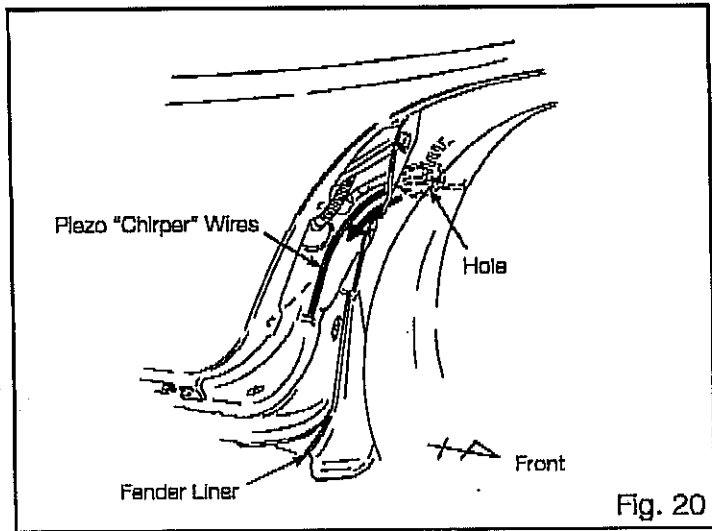

Fig. 20
- (3) Pull back the fender liner, and route the Piezo "Chirper" wires through the fender as shown. Fig 20